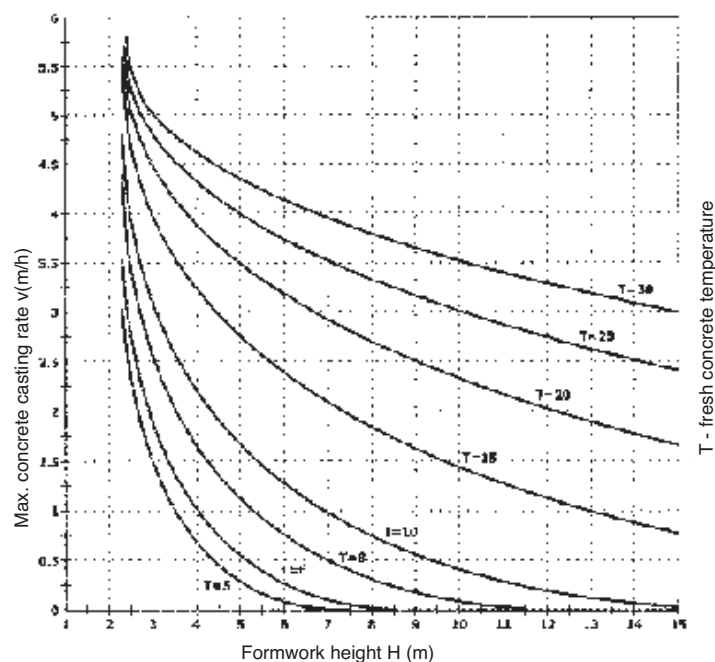

Fig. 9.4
- Fig. 9.4 is for wall concrete casting rate (with the use of MIDI BOX Plus formwork) and concrete with retarders).